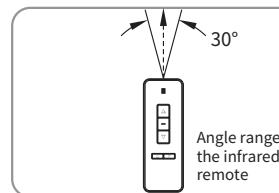

Figure 11
- Remote effective angle: $\pm 30^\circ$ from the transmitter axis (Figure 11).